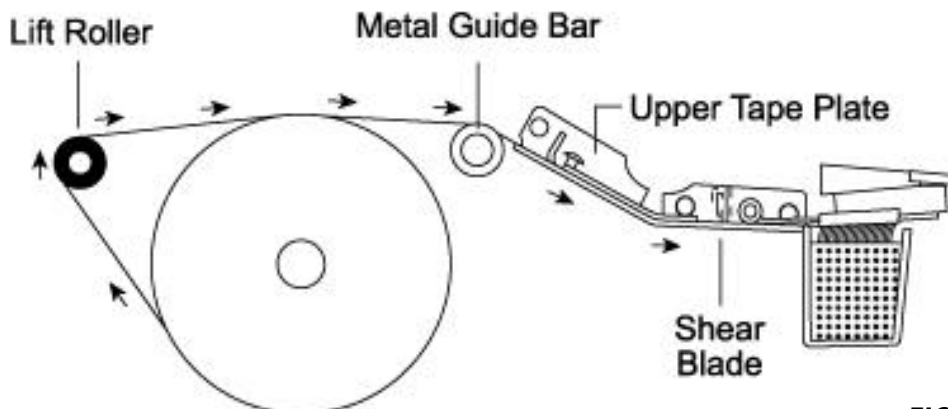

FIGURE 2
- Under the upper tape plate until the tape is up against the shear blade. (Figure 2)